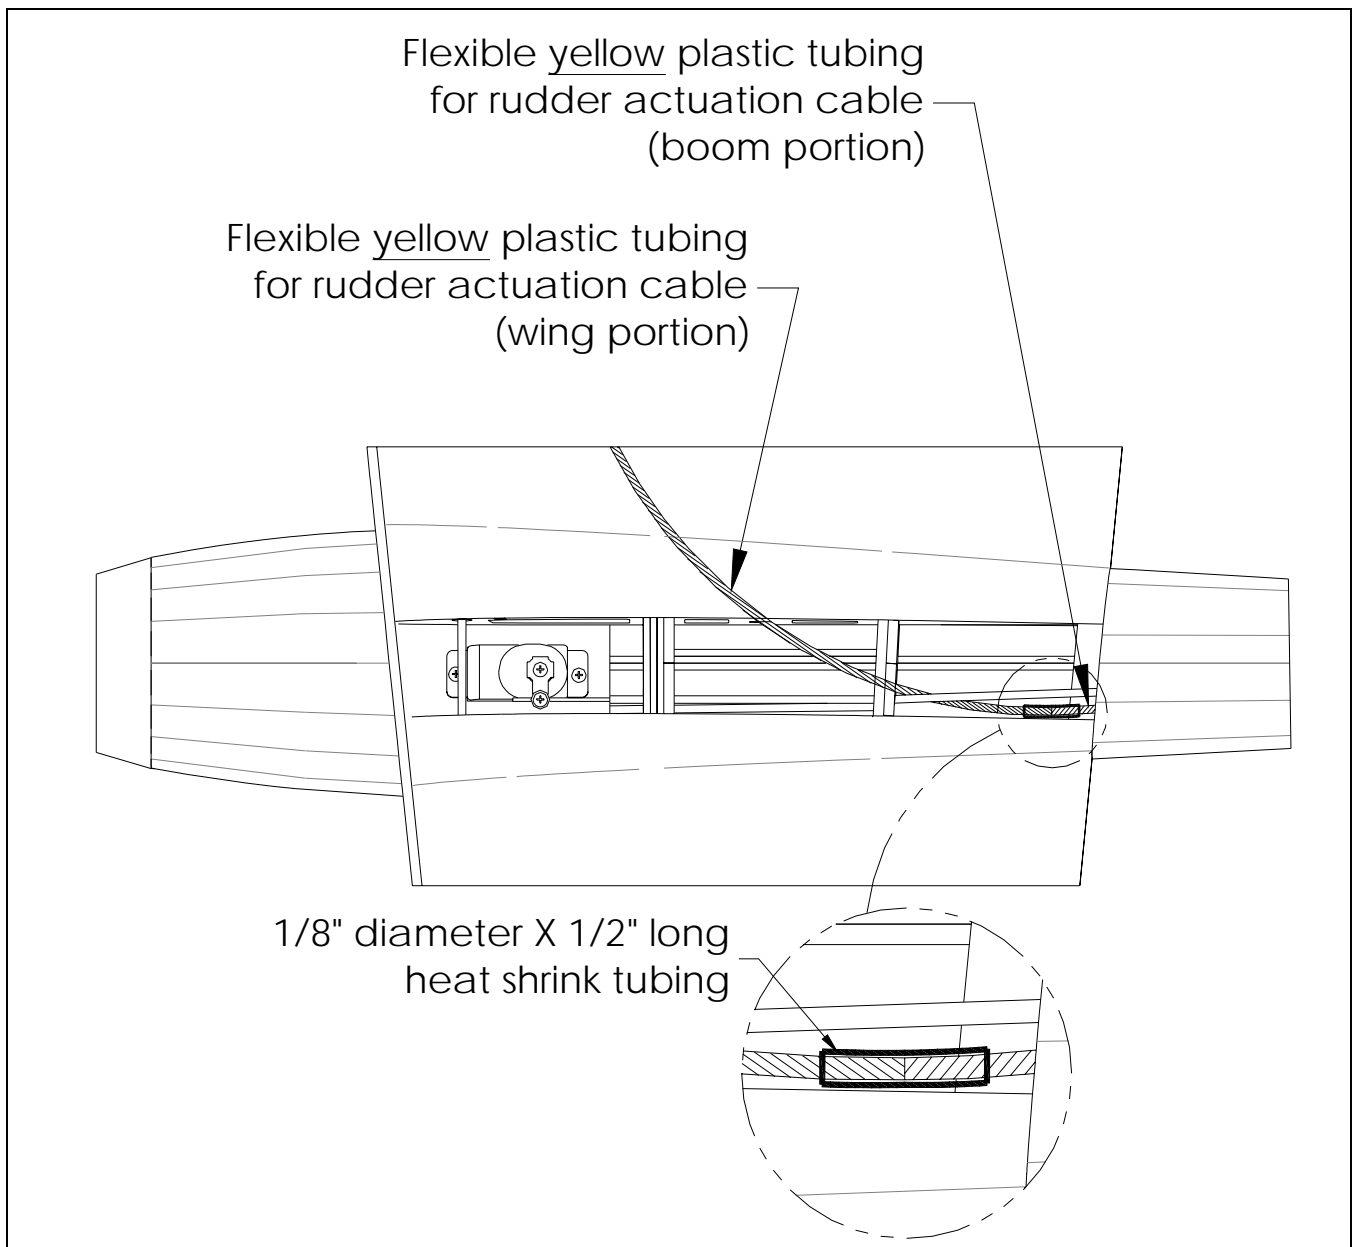

Figure 31
- ❑ Install a piece of 1/8" diameter X 1/2" long heat shrink tubing over the two separate yellow plastic tubes in the boom and wing to create a continuous run of tubing. Make sure you trim the adjoining plastic tubes so that a smooth continuous curve is created; otherwise you will have some unwanted friction between the cable and the tubing. Heat the heat shrink tubing with a heat gun or your covering iron to create a tight fit over the yellow plastic tubing. Do this for each of the boom/wing interfaces. This is illustrated in Figure 31